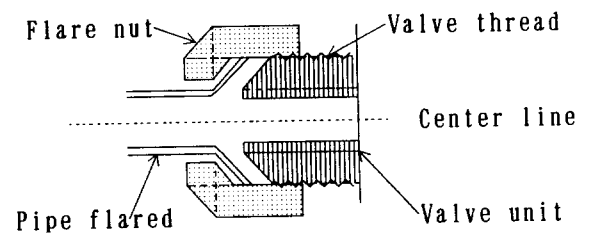

Fig.1
- ① As shown in Fig. 1, adjust the pipe so that the center line of the pipe sets to that of the valve and then tighten the flare nut by hands. (Tightening the nut with a spanner initially causes the thread to damage and gas leakage.)